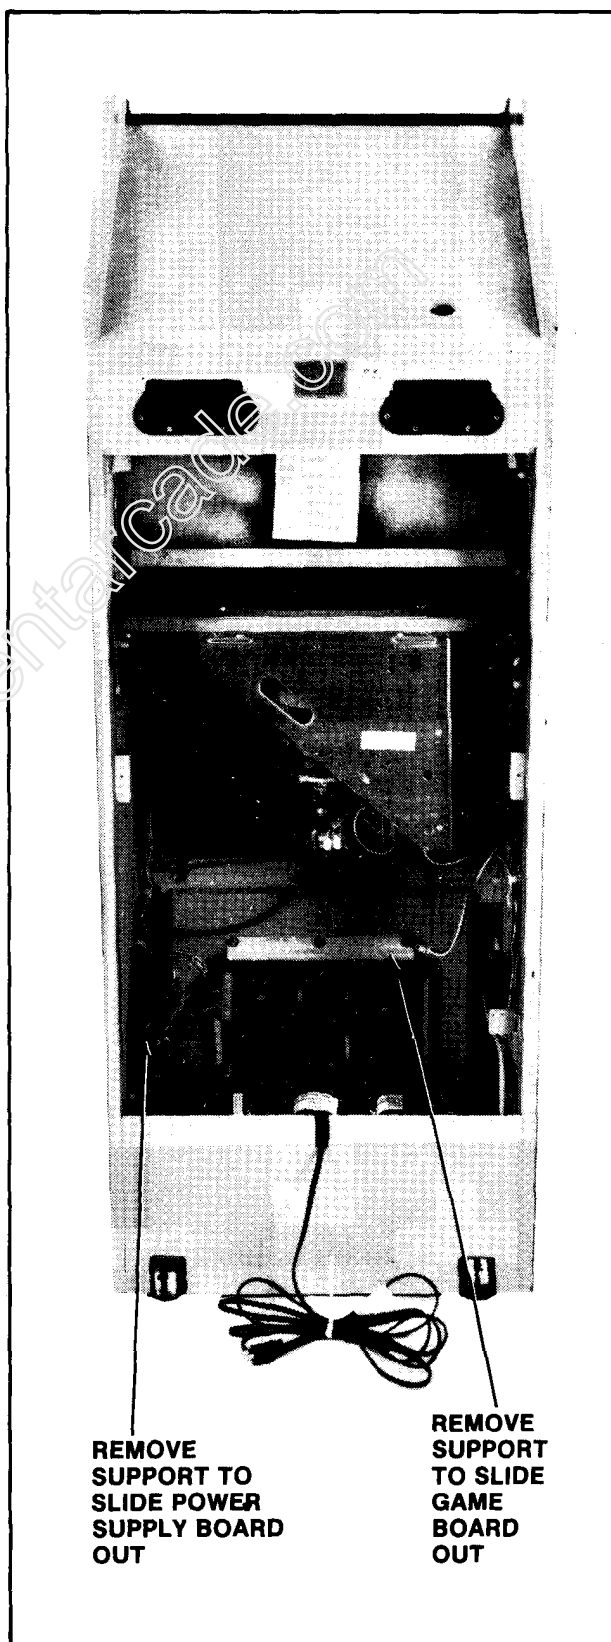

Figure 2-19 Removing P.C.B.'s - Upright
**2.8.1 UPRIGHT MODEL:** (See Figure 2-19)
- ☐ Disconnect the power supply board from all its cabling, remove the P.C.B. supports indicated in Figure 2-19, and slide it out the back of the cabinet.